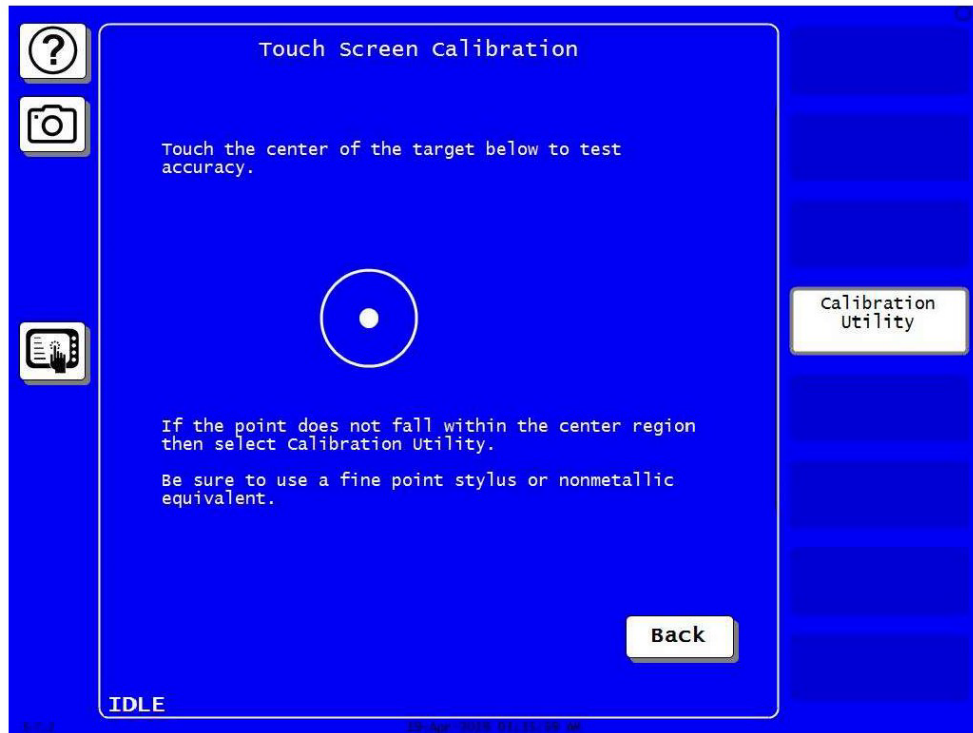

Figure 1. Touch Screen Calibration
- 2.) Once the main program screen appears touch the blue INITIALIZATION Menu button, then touch the NEXT button until you can select DIAGNOSTICS. Once in the DIAGNOSTICS menu, press the Calibrate Touch Screen button and the following screen will be displayed (Figure 1 below).